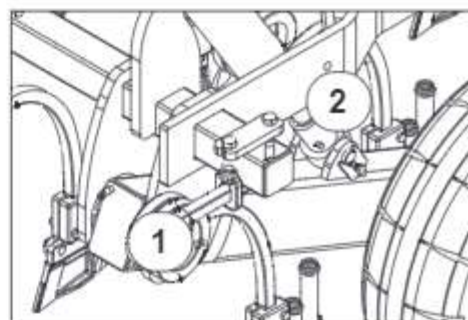

Fig 26
Wheel arm pivots must be greased regularly (weekly or after every 75Ha) to provide lubrication and flush out any dirt. Refer Fig 26 (1).
Grease the depth adjustment collar (2) regularly to ensure it does not seize up. Also check for dirt buildup around the ram shaft seals to ensure seal damage does not occur. Refer Fig 26